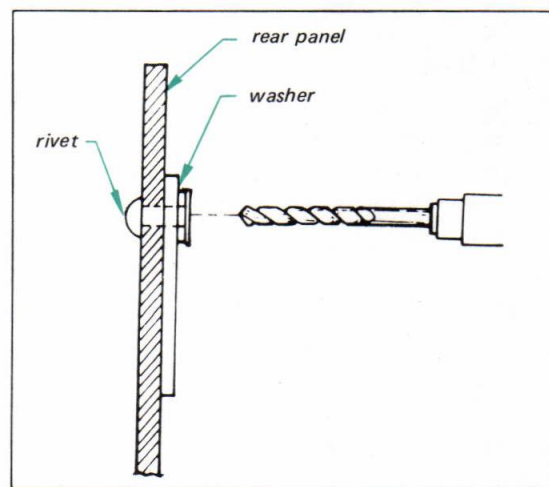

Fig. 2-21. Rivet removal
2. Bore out the rivets using a drill bit slightly larger in diameter than the rivet. See Fig. 2-21.